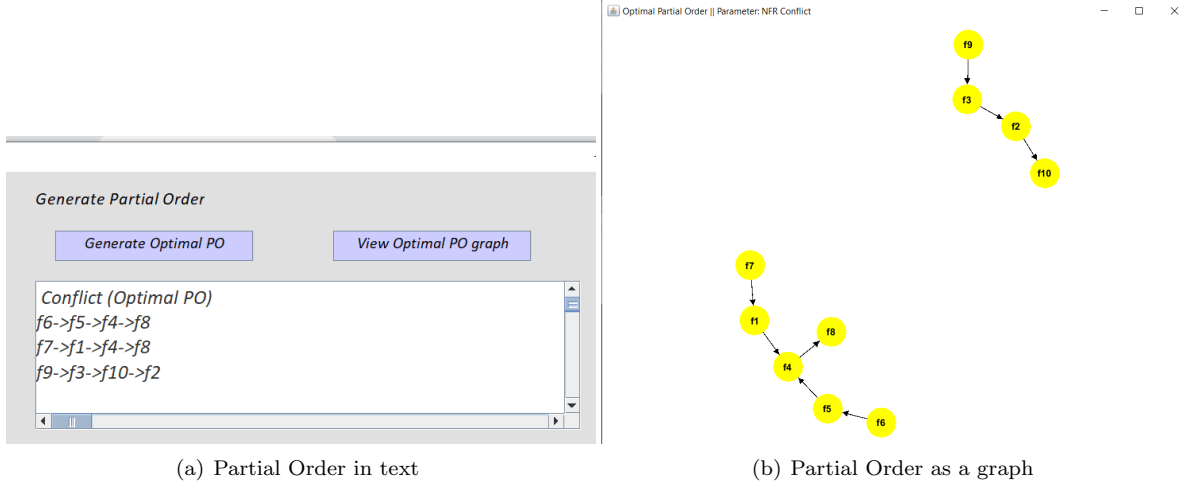

Figure 8: Optimal Partial Order in Iteration 1
- STEP-3.* Now, click on the "Generate Optimal PO" button to generate the Optimal Partial Order (refer to to portion marked as **C** in Figure 7). Partial order in the form of linear sequence(s) that will be displayed in the white text area (refer to Figure 8(a)) .
- STEP-4.* Click on "View Optimal PO Graph" button (refer to to portion marked as **C** in Figure 7) to see the optimal partial order in the form of a graph (refer to Figure 8(b)).